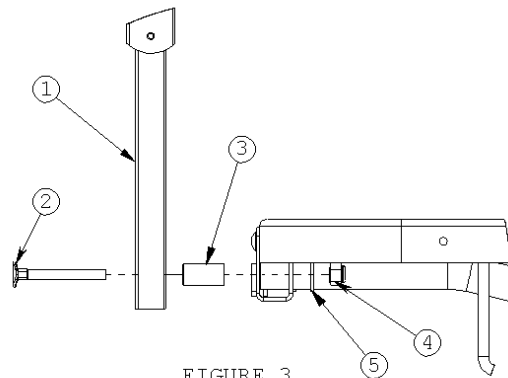

FIGURE 3
2. Place bushings (item 3) in the large mounting bracket holes (Figure 3).
3. Place bolts (item 2) through holes in assist handle (item 1) (Figure 3).
4. Put bolts through the bushings (item 3). Place washer (item 5) over the bolt (item 2) and thread nut (item 4) on the bolt (item 2) and tighten to 17 lbs-ft (Figure 3).